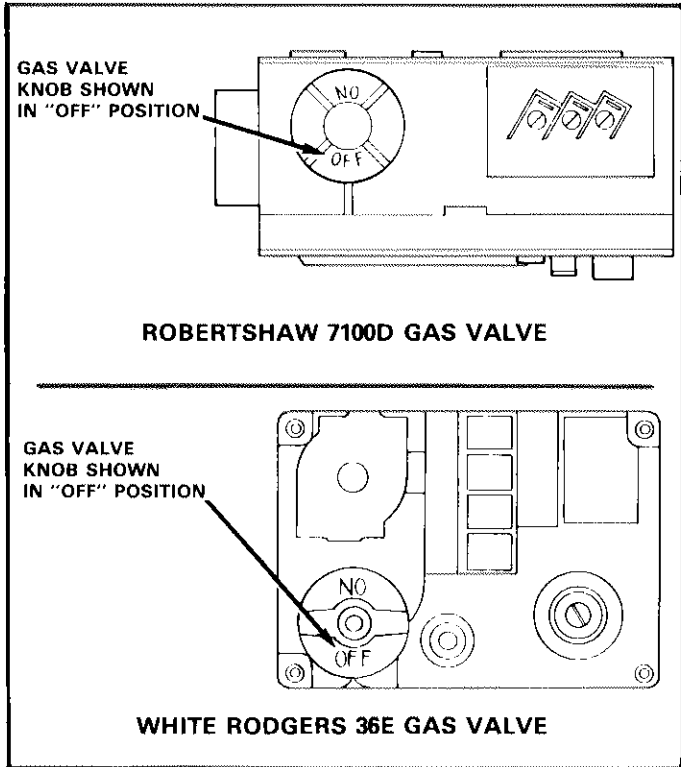

FIGURE 2
Refer to gas valve operation sticker located on the burner access panel and figure 2 for gas valve identification.
- 6 - Turn knob on gas valve clockwise to off. See figure 2.
- 7 - Wait five (5) minutes to clear out any gas. If you then smell gas, STOP! Follow "B" in the safety information section of the gas valve operation sticker. If you don't smell gas, go to next step.